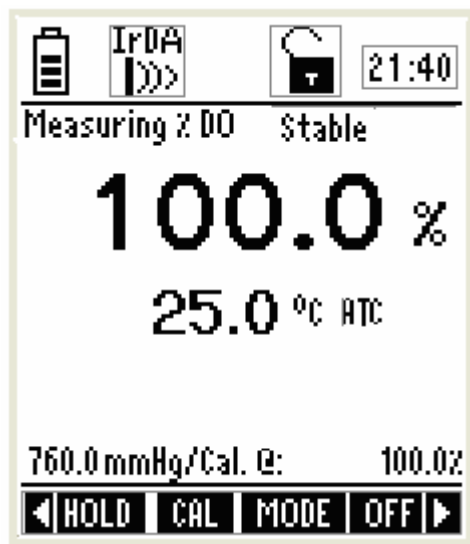

Figure 59 : Saturation measurement Screen
7. Press **ENTER** key to confirm the calibration. The meter automatically calibrates to 0% saturation and returns to the measurement mode [Figure 59].